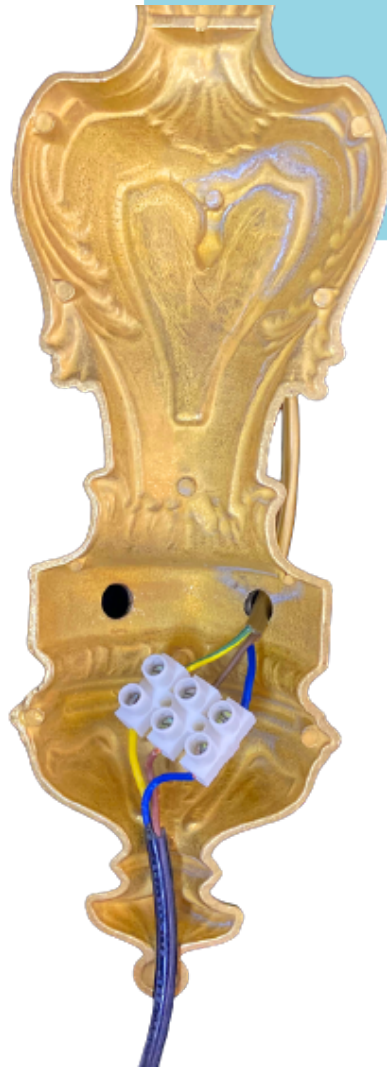

Figure 1
- ❖ 4. Thread the cable through the new ceiling plate then make the appropriate terminal connections using a connecting block (not supplied). Refer to figure 1.